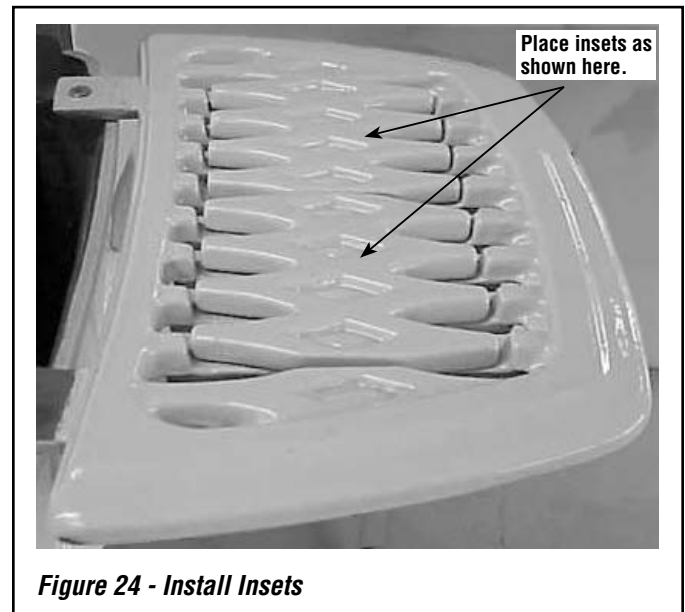

Figure 24 - Install Insets
4. Place the insets (4 ea. for the CI1500 series or 6 ea. for the CI2500 series) into the recessed areas on both warming shelves as shown in *Figures 24 and 25*. **Note: Common ceramic tiles (4-1/4" square) can be used in place of insets on the warming shelves (available at most home improvement stores).**